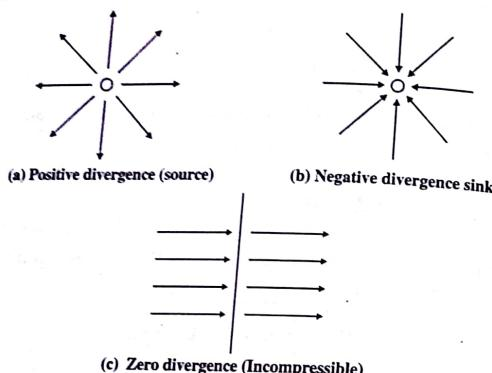

Fig. 6.3.2
- In Fig. 6.3.2(a), at point O the divergence of vector field is positive as the vector spreads out which also represents source.
- In Fig. 6.3.2(b), the field is converging and hence divergence at point O is negative which represents sink. In Fig. 6.3.2(c), one can notice that divergence of vector field is zero.